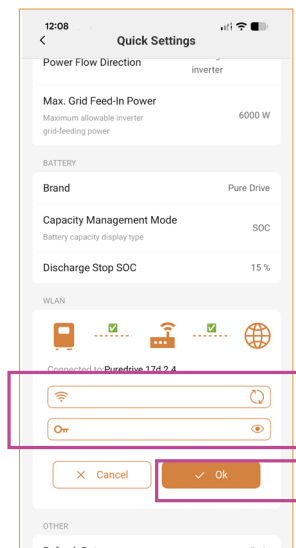

Figure 13.
- For “Meter location” select the location you have chosen in **Figure 13 on page 17 of the Dura-i G3 Install Guide**. For standard installation it is recommended to install the CT on the incoming grid live cable before the main house distribution board as shown in **6.6. Grid Meter Connections on page 45. of the Dura-i G3 Install Guide**.
- For “Power flow direction” select the direction in which the arrow on the CT sensor is pointing. For standard installation it is recommended to install the CT pointing from the grid to inverter as show in **Figure 13 on page 17. of the Dura-i G3 Install Guide**.